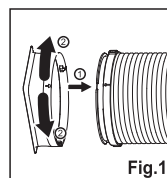

Fig.1
- 1.Align the both arrow of hose inlet connector and hose, insert; (Fig. 1)
- 2.Rotary the hose inlet connector Clockwise or counterclockwise about 60°; (Fig. 1)